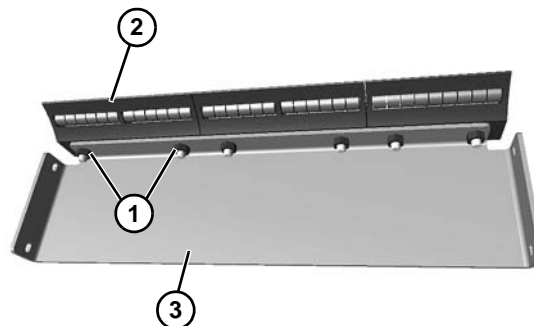

Figure 65
6. If necessary, remove two nuts (**Figure 65, item 1**) securing each transfer roller (**Figure 65, item 2**) on the drive tail assembly bracket (**Figure 65, item 3**). Replace and install as needed.